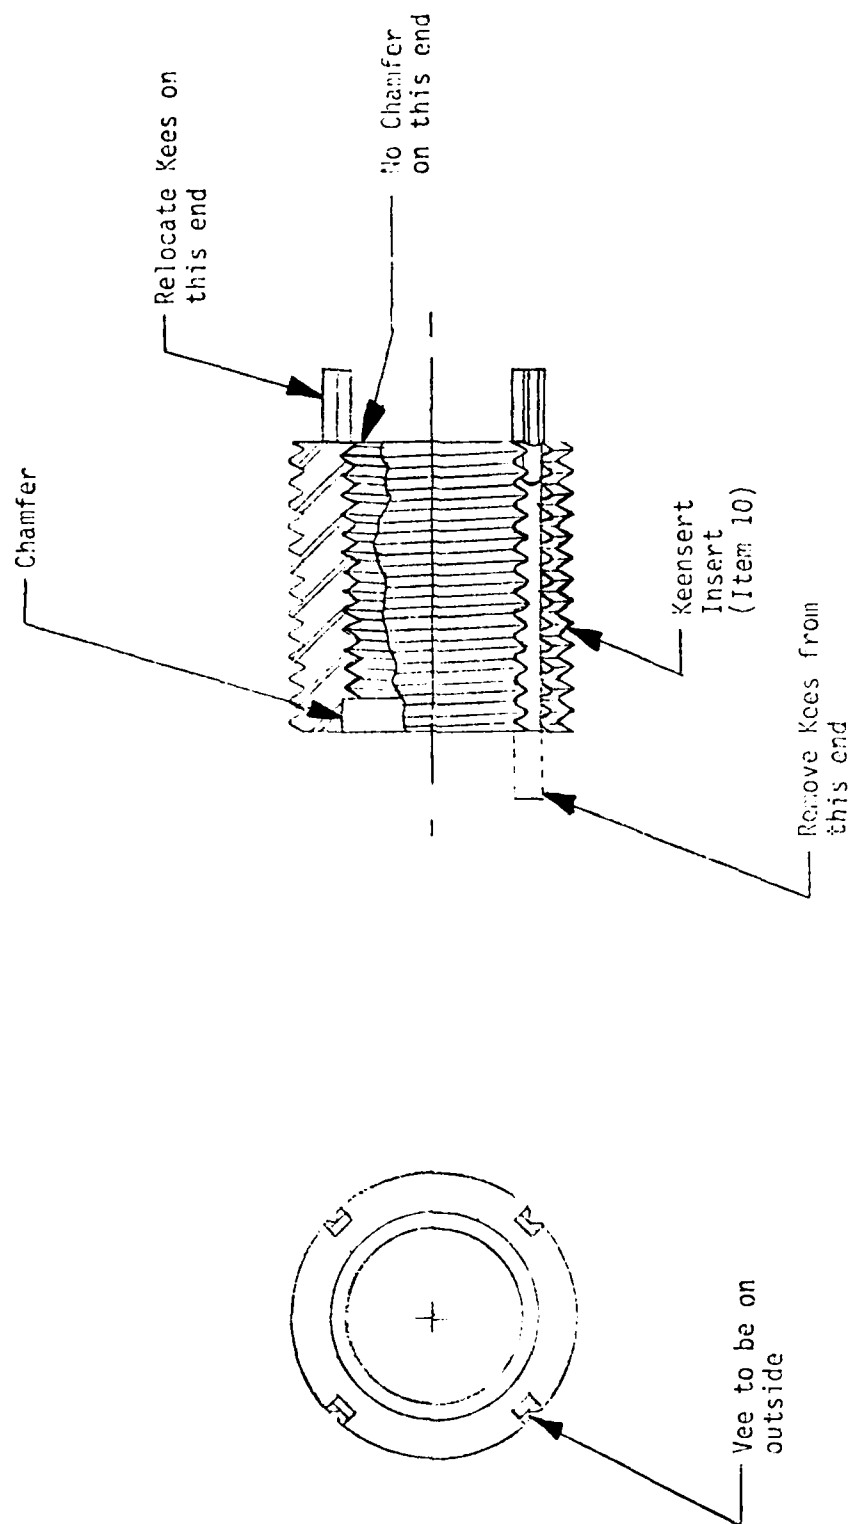

Figure 5. Keensert installation: Relocation of Keensert kees.
29. If the kees are on the same end of the insert as the counterbore, the kees should be moved to the opposite end (see Figure 5).
31. Insert kees into the opposite end. The vee of the kee should be on the outside, as shown in Figure 5. A few kees may be lost or damaged. A minimum of three kees per insert should be retained. It is possible to cannibalize kees from other inserts, if necessary.
8. If the kees are on the same end of the insert as the counterbore, the kees should be moved to the opposite end (see Figure 5).
10. Insert kees into the opposite end. The vee on the kee should be on the outside, as shown in Figure 5. A few kees may be lost or damaged. A minimum of three kees per insert should be retained. It is possible to cannibalize kees from other inserts, if necessary.
13. Use the Keensert installation tool and thread the insert into the tapped hole. The surface of the insert must be below flush with the missile center ring surface, but not more than 0.03 inch below flush (see Figure 5). Align the kees with the kee grooves from the previous insert, if possible.